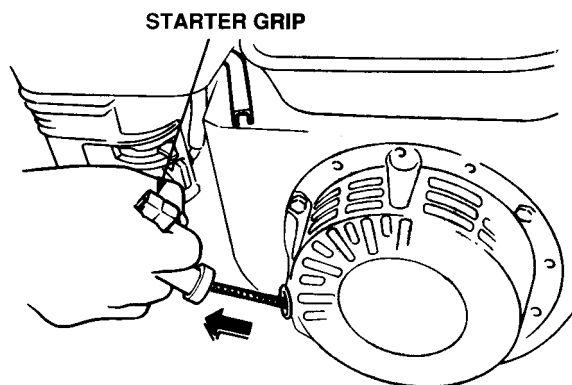

Figure 16. Starter Grip
5. Grasp the starter grip (Figure 16) and slowly pull it out. The resistance becomes the hardest at a certain position, corresponding the compression point. Rewind the rope a little from that point and pull out sharply.